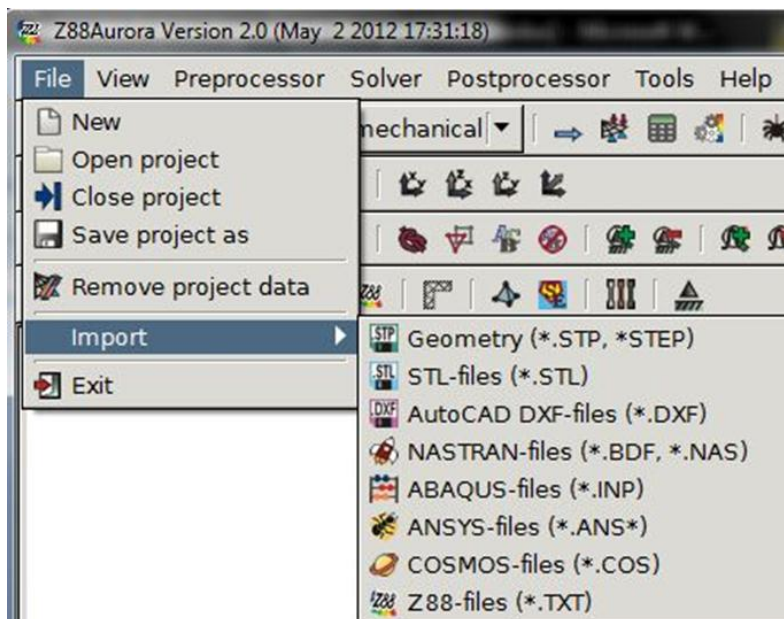

Figure 12: Import in the text menu
1. Via the text menu (figure 12)